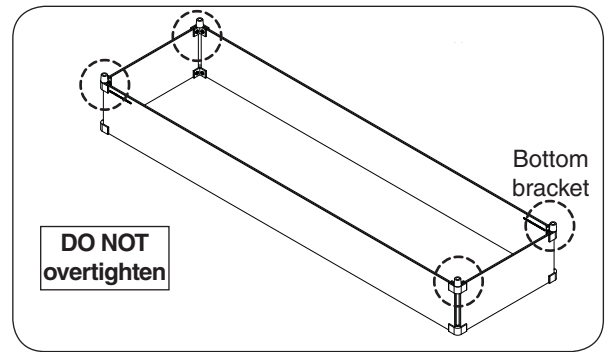

Fig. 21-1 Install bottom brackets
3. Install bottom brackets. **DO NOT** overtighten screws. **Tighten until snug. Overtightening can break glass.** See Fig. 21-1.